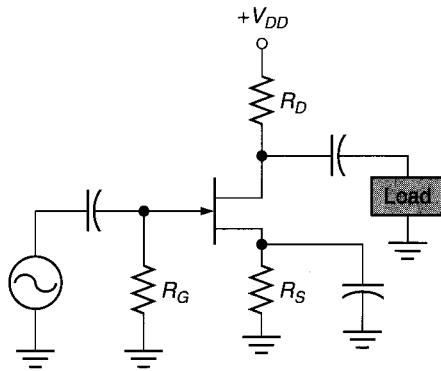
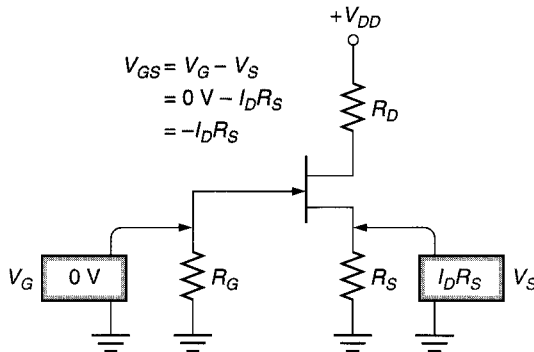

FIGURE 12.19 Self-bias.
FIGURE 12.20  $V_{GS}$  for the self-bias current.
**Self-bias** is a more viable type of JFET biasing. The self-bias circuit replaces the gate supply ( $-V_{GG}$ ) with a source resistor ( $R_S$ ). The self-bias circuit is shown in Figure 12.19. Note that the gate is returned to ground via  $R_G$ , and a resistor has been added in the source circuit. This resistor helps to produce the  $-V_{GS}$  needed for the operation of the JFET. Figure 12.20 helps to illustrate this point.